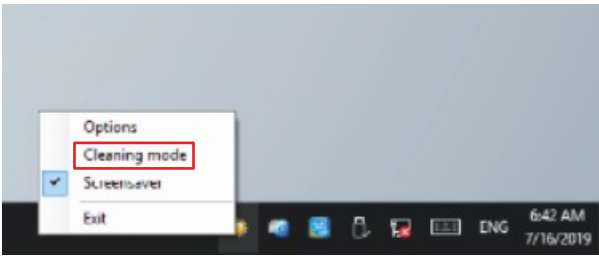

Fig. 14: CP69xx\_Select Cleaning Mode
3. Select the "Cleaning Mode" (see Fig. 14).